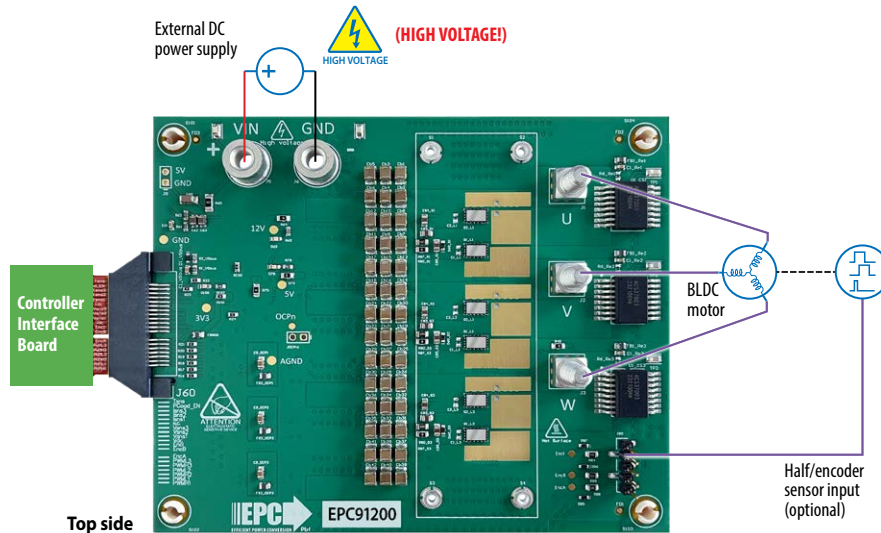

Figure 5: Connection diagram of the EPC91200 configured as a motor drive inverter
2. Connect the correct motor, whose parameters are programmed into the controller, to the EPC91200 at connector J1 and the DC power supply at connectors J5 and J6 (**Observe correct polarity, there is no inverse polarity protection on board**) and shown in figure 5.